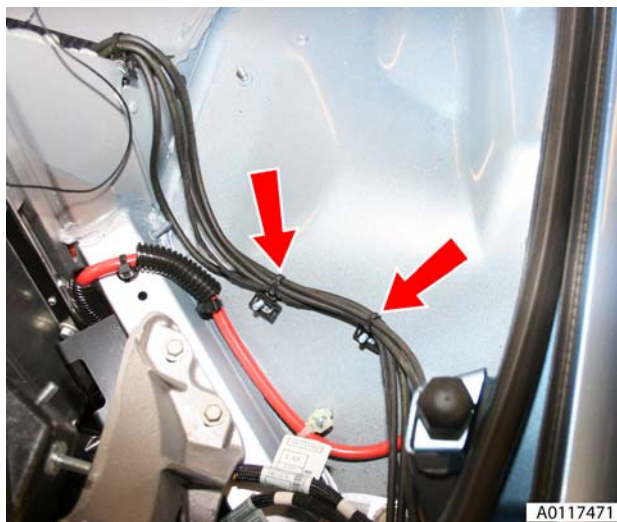

Figure 6
12. Remove harness/pipe retaining clips (x2) (LH) (see Figure 6).